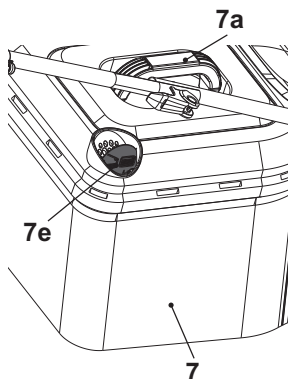

Fig. 12
1. When the hatch (7e) is opened the grass catcher has sufficient volume left to collect grass (Fig. 12).